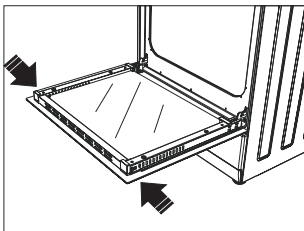
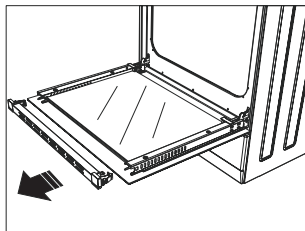
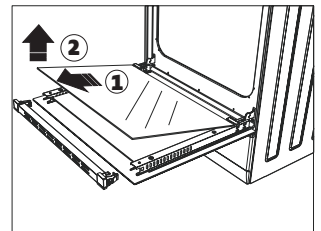

Figure 11
Figure 12
Figure 13
1. Press the plastic latches on the left and right side as shown in figure 11 and lift the profile by pulling it towards you as shown in figure 12. Glass is free after the profile is removed as shown in figure 13. Carefully pull the glass that has become free toward you. The outer glass is fixed to the oven door profile. You may easily clean the glasses after they have been separated. Once the cleaning and maintenance is complete, you may replace the glasses by performing the removal procedure in reverse. Make sure that the profile is properly placed.